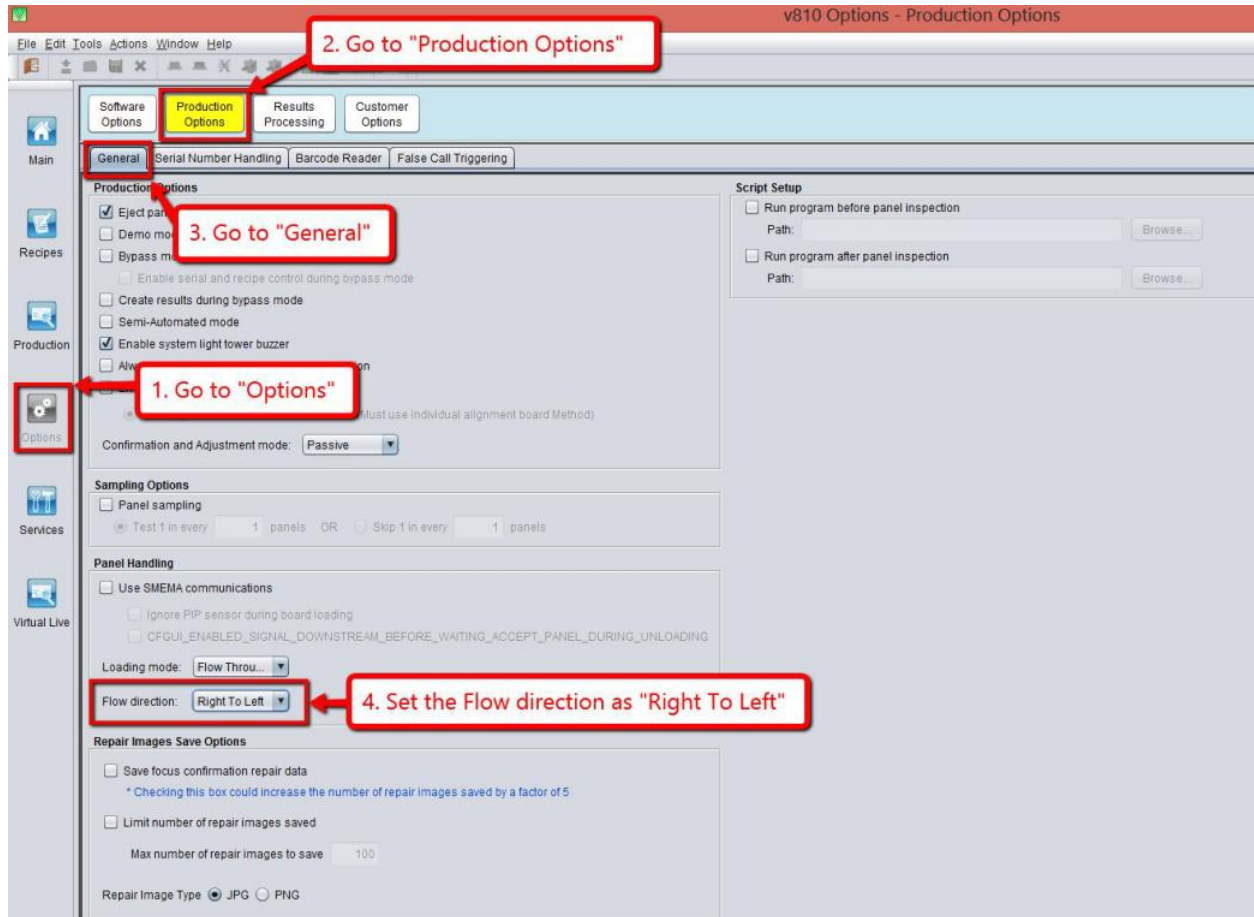

Figure 25 Loading mode setting
14. Go to the Options -> Production Options -> General and set the Flow Direction as "Right To Left" as shown in the Figure 25